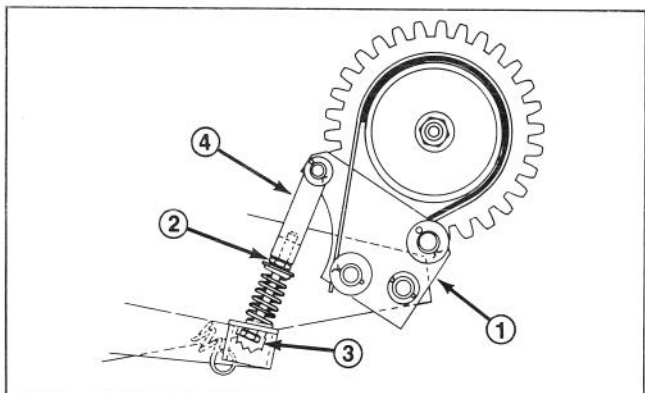

Figure 46
2. Hold jam nut above spring and rotate screw into clevis to reduce free travel of brake pedal (Fig. 46). Reverse procedure to increase pedal free travel.